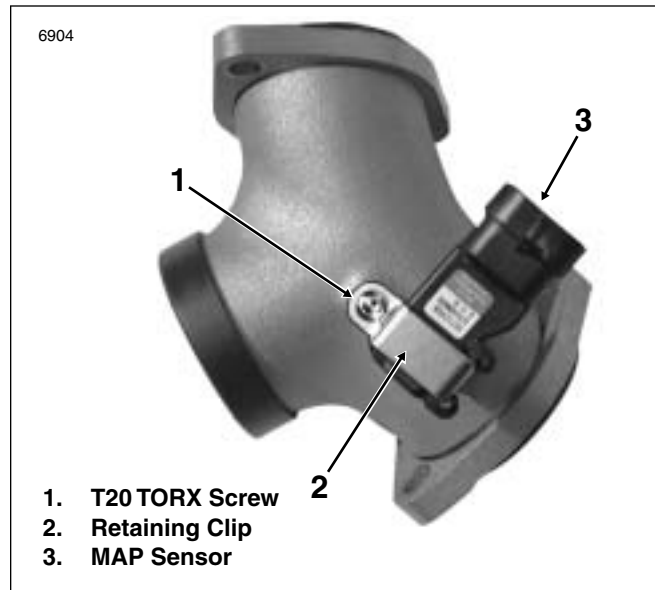

Figure 8-7. Intake Manifold
3. Remove T20 TORX screw to release retaining clip from intake manifold. See Figure 8-7.
3. Install T20 TORX screw and tighten to 25-35 **in-lbs** (2.8-4.0 Nm). See Figure 8-7.